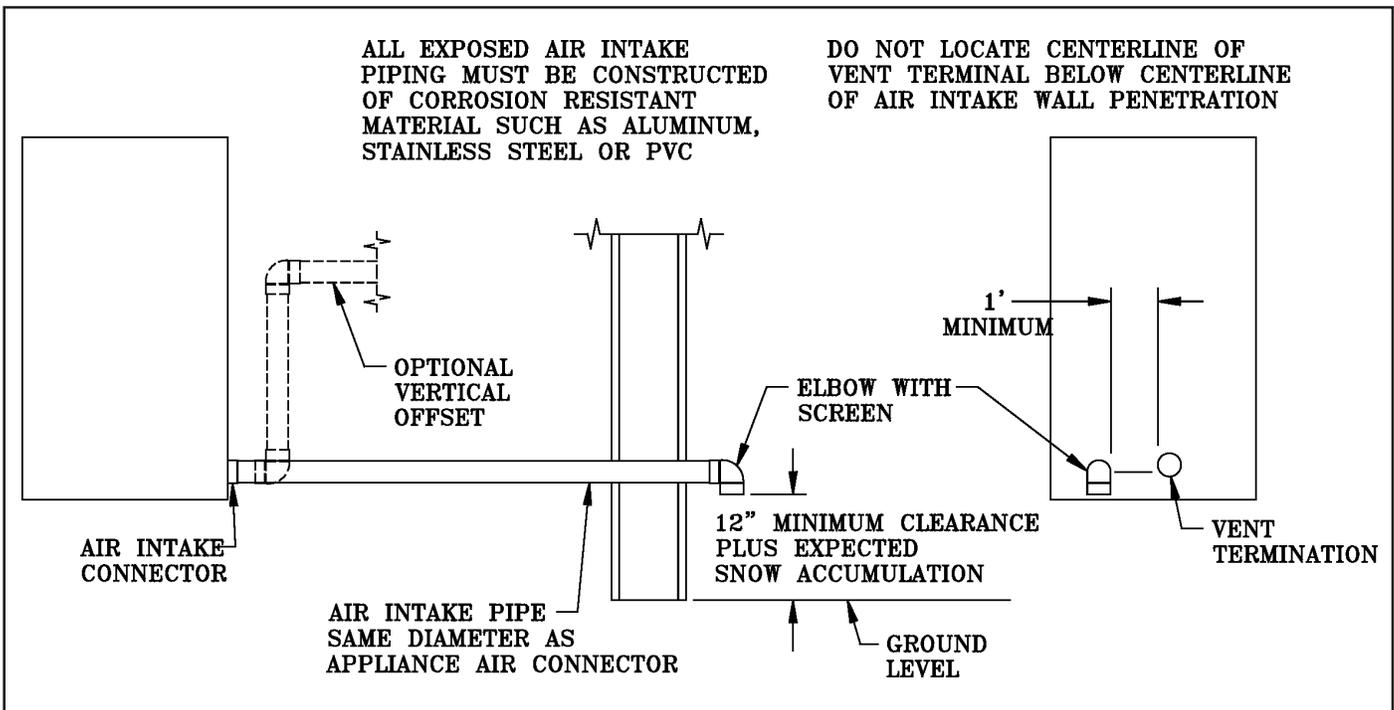

Figure 6: Horizontal Air Intake Piping
C. COMBUSTION AIR - See Figures 6 and 7.
4. The maximum air intake pipe length is fifty (50) equivalent feet. Air intake pipe length is equal to the total length of straight pipe plus the equivalent length of fittings. Consult intake pipe manufacturer for equivalent length of fittings and pipe.
8. The horizontal air intake pipe must be adequately supported with straps or supports no less than five (5) feet apart. The completed air intake pipe system must be rigid and able to withstand impacts without collapse.